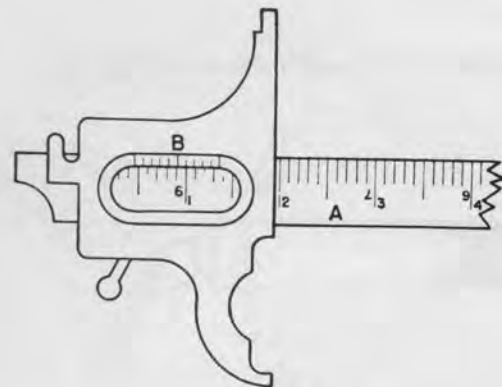

Fig. 8
Depth measurements are obtained by using the opposite end of the caliper. Slide the vernier (B) until it is exactly flush with the extreme end of scale (A) for a 0. mm reading. Since the scale is also calibrated from this end, the sliding vernier is adjusted to the desired depth and the reading made as explained above. In Fig. 8, the reading would be 4.6 mm.